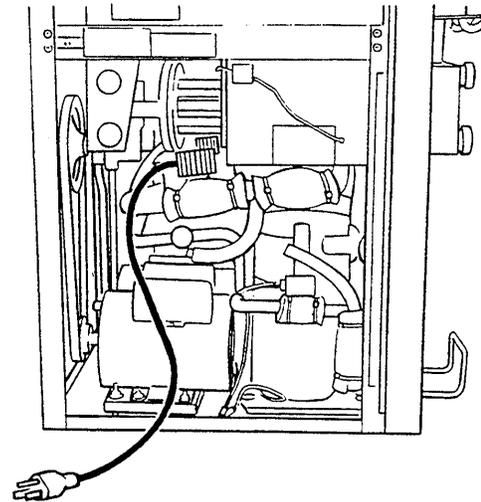

Figure 47. Power Cord
- To service the refrigeration system, connect power cord, Part No. 430119. (Figure 47)